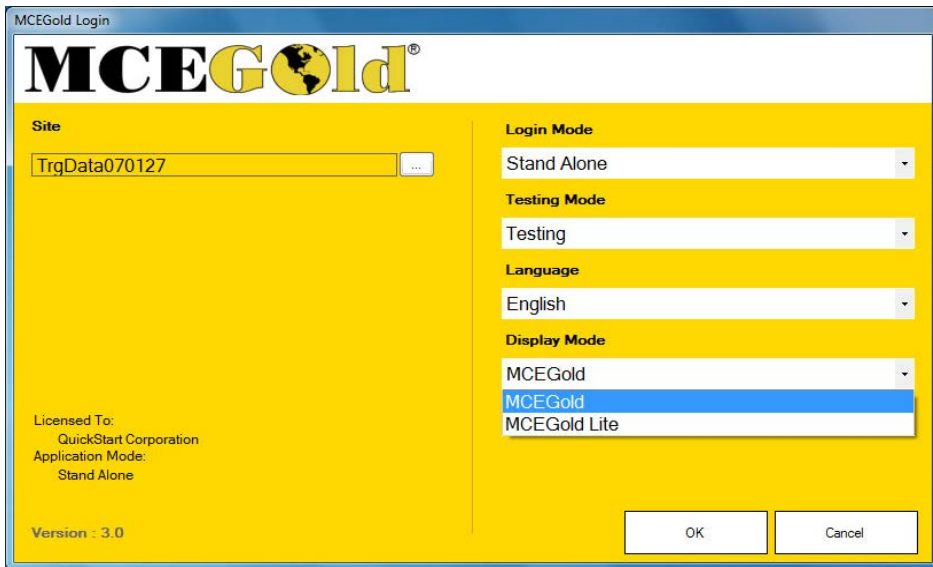

Figure 1: Login Window
2. At the Login window (Figure 1) select the site/database by using the browse button ().